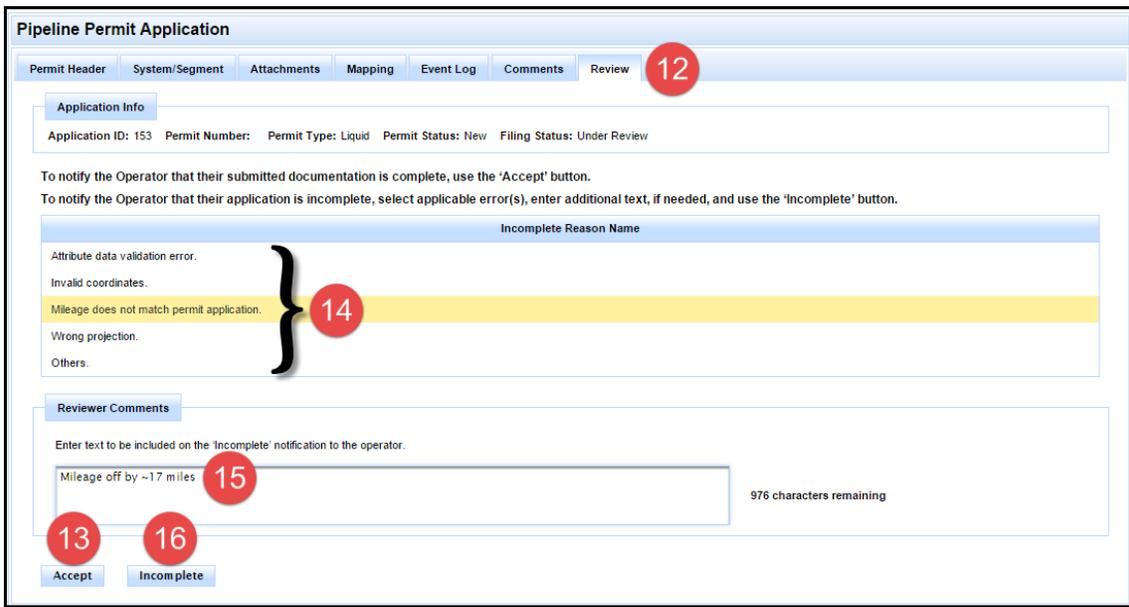

Figure 85: Mapping Reviewer Review Tab
12. Click the **Review** tab when you are finished with comments. An example Review tab is shown in Figure 85.